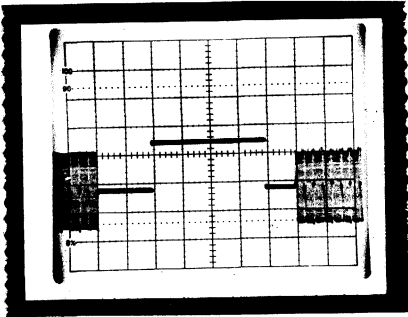

FIGURE 6
- A. With photocell - display should be the same as Figure 6. Guard band on right hand side must be at least 50 usec.
- B. Without photocell - display will resemble Figure 6 or 7.
2. Adjust the pot on the R303 module in location C28 (DF32) C17 (DS32) until the guard band on the right hand side is 50 usec. The display should be the same as Figure 6.